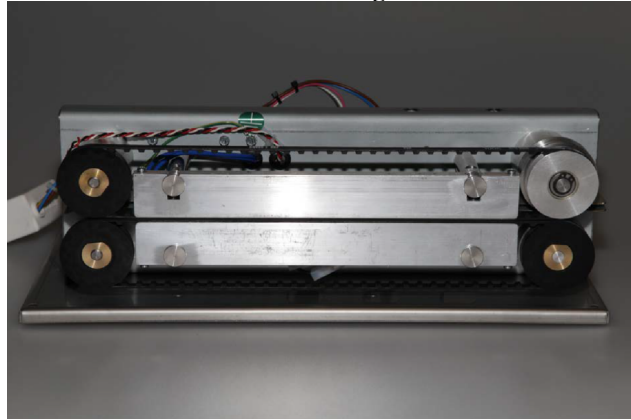

Figure 1
1. Remove the cover from the heat sealer. **Fig. 1**